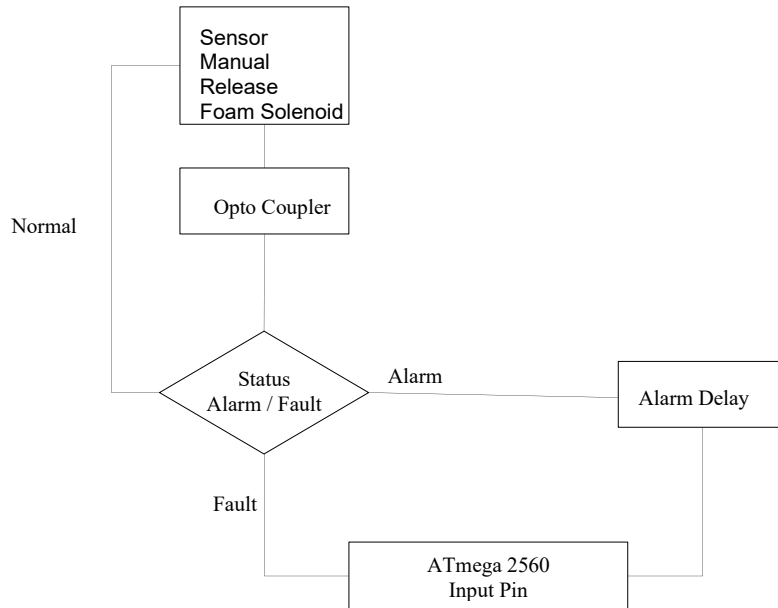
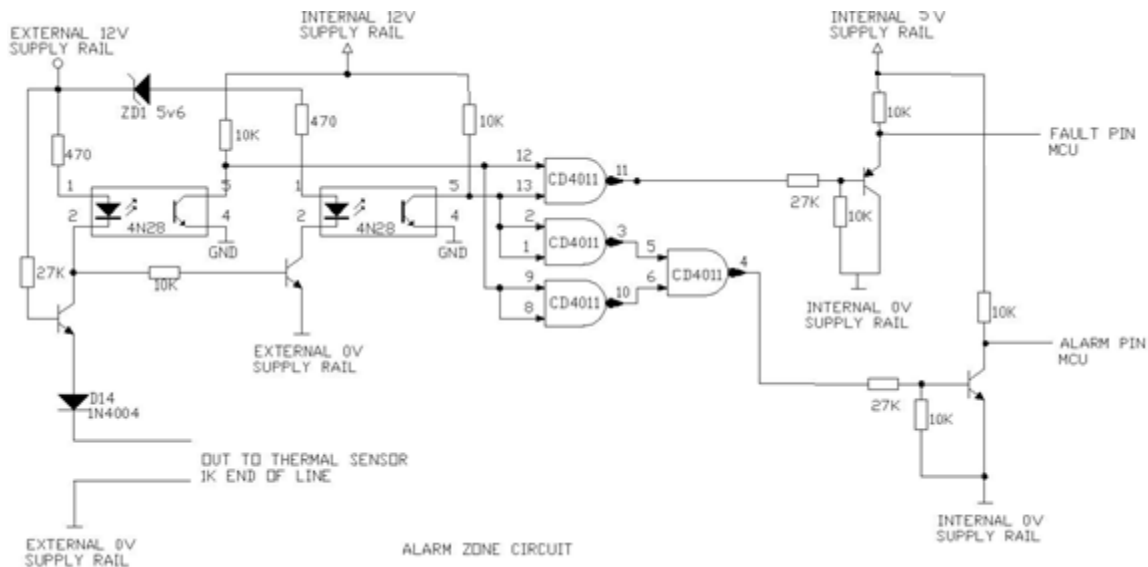

Figure 1 Typical Fire Zone Flow diagram
Figure 2 Typical Fire Zone Circuit
Each of the monitored circuit include two (2) opto couplers to ensure the internal electronics are electrically isolated from the external environment, transistors and logic gate to produce a switch 5v output onto the assigned input pins on the ATmega2560 control card micro controller see figure 1 (fire zone flow diagram) and figure 2 (fire zone circuit diagram).